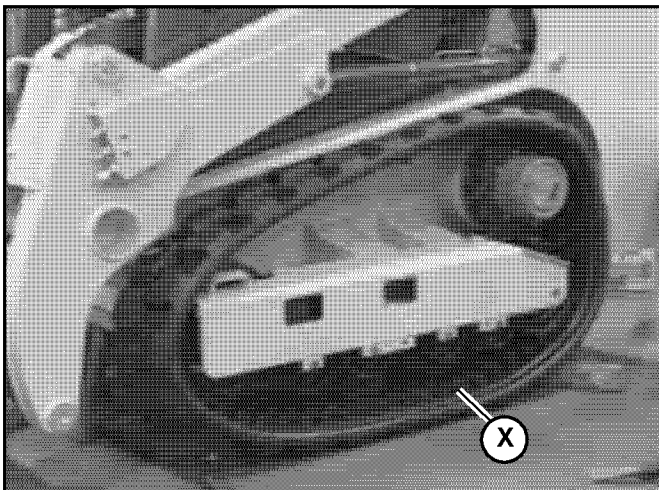

Fig. 141 – Track Installed Before Tensioning
14. The installed track should look similar to Fig. 141.